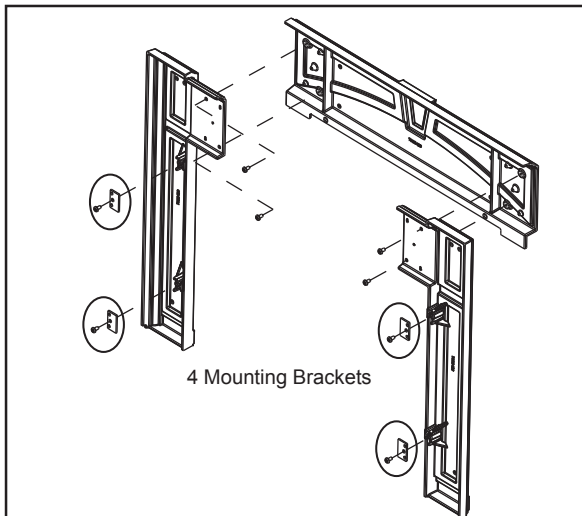

Figure 44.1
4. Attach the mounting brackets to the side pieces included with the kit. **Figure 44.1.**